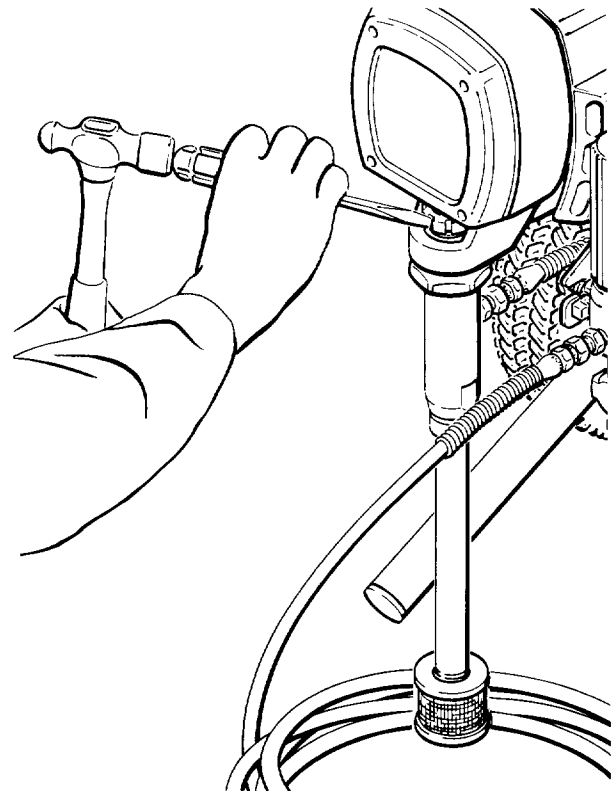

Fig 7
- Check the packing nut/wet-cup daily.** First follow the **Pressure Relief Procedure** on page 10. Be sure the wet-cup is 1/3 full of TSL at all times to help prevent fluid buildup on the piston rod and premature wear of packings. The packing nut should be tight enough to stop leakage, but no tighter. Overtightening may cause binding and excessive packing wear. Use a screwdriver and light hammer to adjust the nut. See Fig 7.